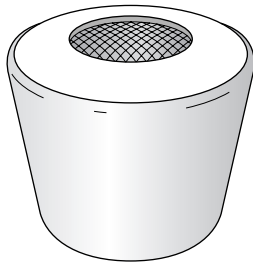

Figure 15-6:
- ✓ ITG uses a dual-density foam element. A loose density (more free-flowing) outer layer of foam covers a denser inner foam element; it looks like a foam version of the traditional cotton/gauze cone filter. You can see the two different densities of foam in Figure 15-6.